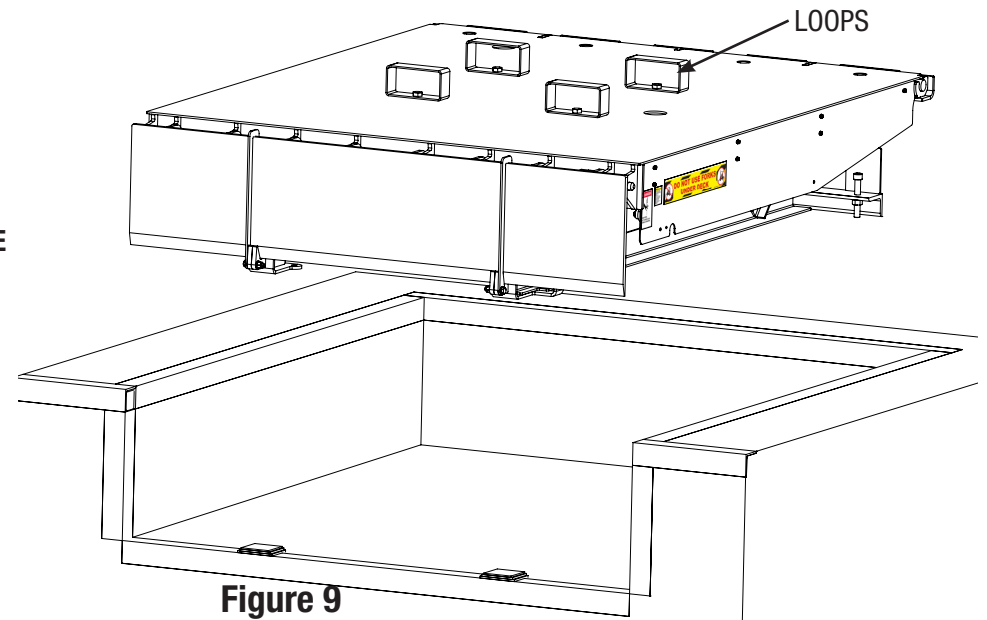

Figure 9
1. Using properly rated lifting equipment lift the leveler using the deck transportation loops and lower it into the pit. See **Figure 9**.